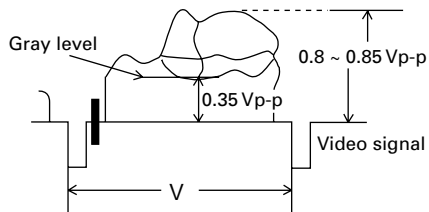

Fig.8
5. Set ECLIPSE SW (Dip Switch #4): ON. Viewing highbright object, adjust THRESHOLD VR (VR802) by turning it clockwise so as video output level of camera to be clipped at $0.8 \sim 0.85V_{p-p}$. (See Fig.8)
6. Set gray level shown in Fig.8 to $0.35V_{p-p}$ by turning GRAY VR (VR804) to clockwise or counterclockwise.